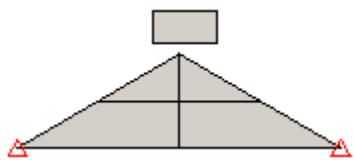
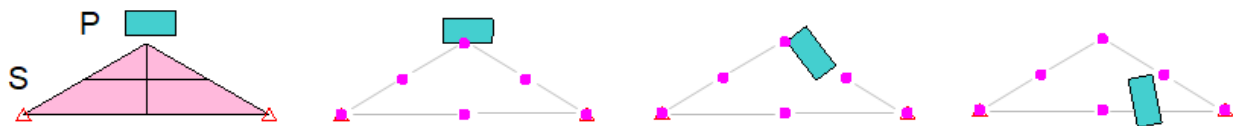
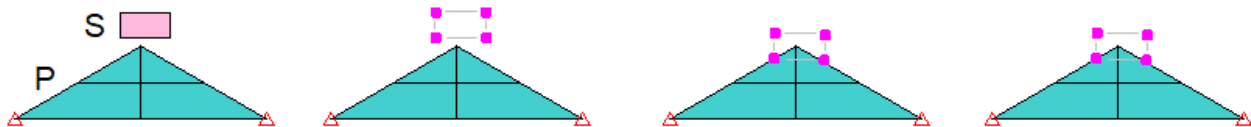

Figure 38 - Sample of dropping a block onto a wedge.
Figure 39 - Unsymmetric contact. If the wedge is the secondary, only the nodes are important. The block can fall between the nodes!
Figure 40 - Unsymmetric contact. If the block is the secondary, only the nodes are important. The block falls and gets stuck on the wedge!
- Unsymmetric contact is suitable when there is no contact between an edge and a face. See Figure 38, Figure 39 and Figure 40.
- Better contact detection, especially when contact occurs at an edge. But approximately twice as many contact elements are created. See Figure 38 and Figure 41.